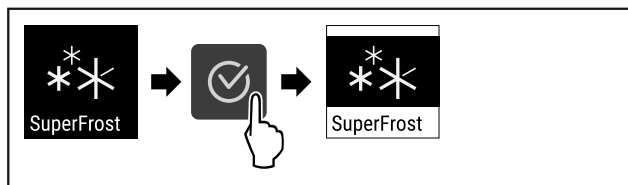

Fig. 65
- Complete steps (see Fig. 65) .